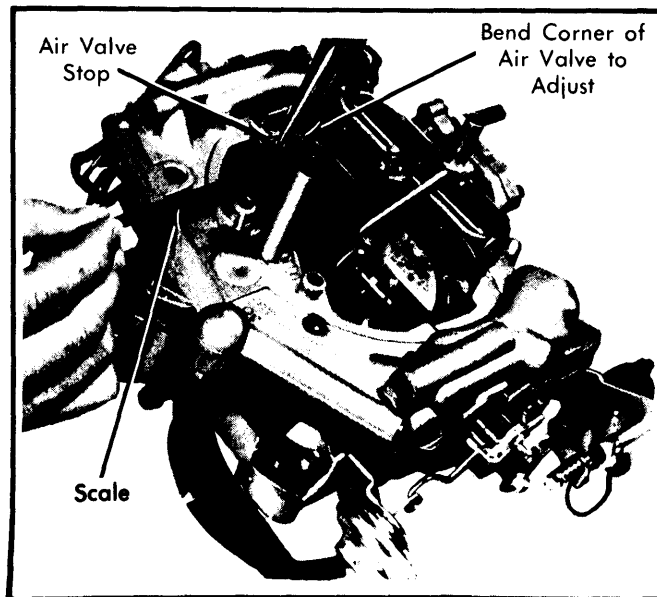

Fig. 4 Adjusting Air Valve Gap
1) Hold secondary air valve wide open. Measure specified gap between raised edge (short side) of air valve and air horn wall. See Fig. 4.